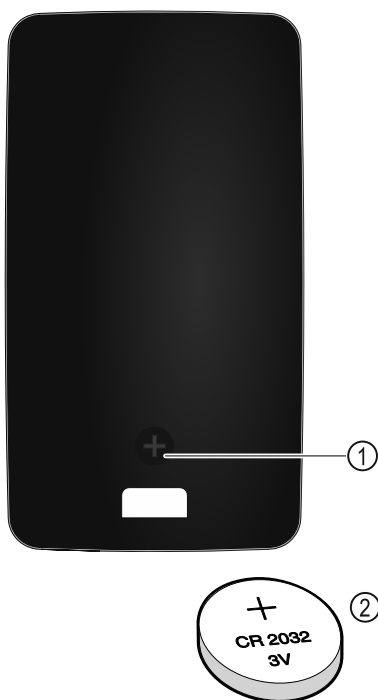

Fig. 223
The remote control is powered by a 3V CR 2032 battery Fig. 223 (2) available from specialist retailers.
- ▶ Undo screw Fig. 223 (1) on the back of the remote control.